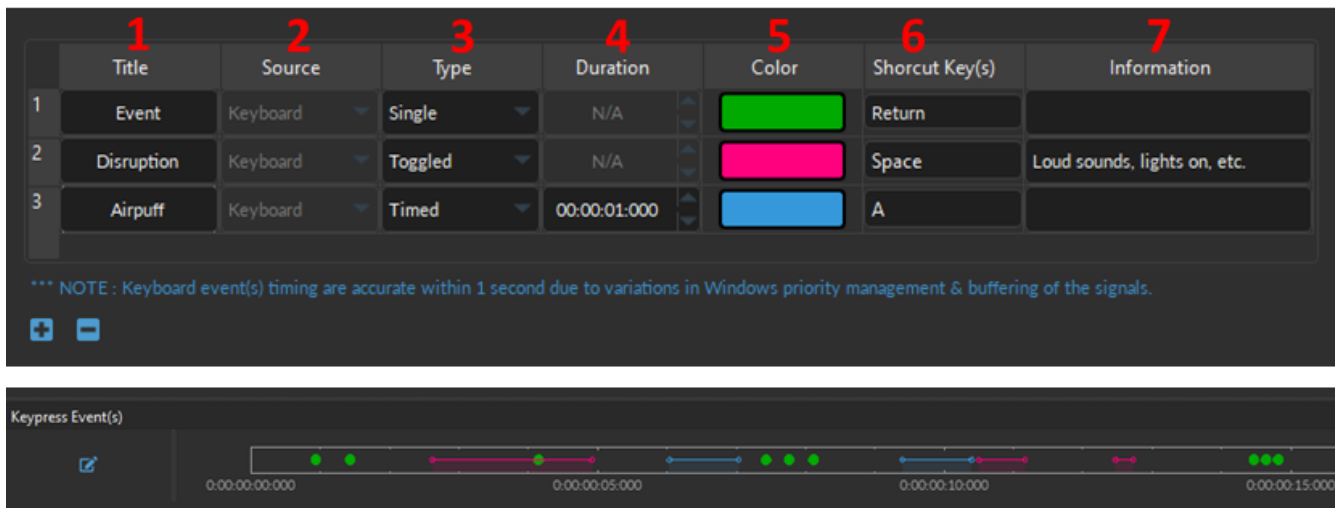

Figure 8.24: Channel(s) configuration window, Keypress Event(s)
The following are the configurable parameters of a **Keypress Event**, per Fig. 8.24:
1. The **Title** (Fig. 8.24, 1) allows you to give a name for the Keypress event.
2. The **Source** (Fig. 8.24, 2) is by default *Keyboard*.
3. Three **Types** of Keypress Event(s) (Fig. 8.24, 3) can be specified with the drop-down list:
- The **Duration** (Fig. 8.24, 4) is only used for the **Timed** Keypress type to specify the predetermined amount of time a Keypress Event will span. The duration is set in hh:mm:ss:zzz.
- Select the **Color** (Fig. 8.24, 5) field to open the **Select Color** window. Basic colors are provided, in addition to custom colors can be created and stored.
- The **Shortcut Key(s)** (Fig. 8.24, 6) can be any keyboard key, including space bar, enter, backspace, any letters, number, and special characters (*, !, ? etc.). To specify the key, click inside the *Shortcut Key(s)* cell, then press the keyboard key of choice. If a key was properly set, it will appear in the *Shortcut Key(s)* cell (as in Fig. 8.24, column 6).
- The **Information** column (Fig. 8.24, 7) provides space to make notes or write a short description of the Keypress Event.